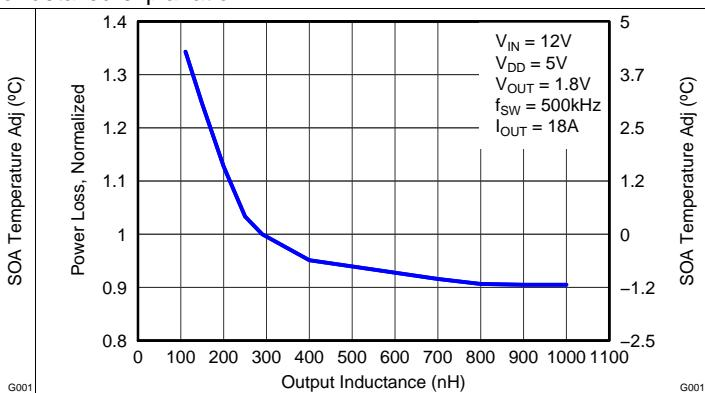

Figure 8. Normalized Power Loss vs Output Inductance
- Normalized Power Loss for output inductor \approx 1.1 (Figure 8)
- SOA adjustment for output inductor \approx 1.3°C (Figure 8)